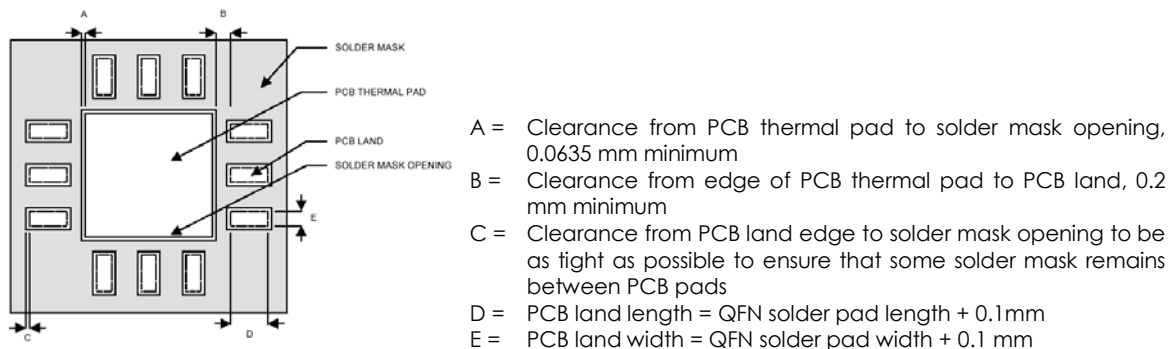

Figure 23: PCB land and solder mask recommendations
1. PCB land and solder masking recommendations are shown in Figure 23.